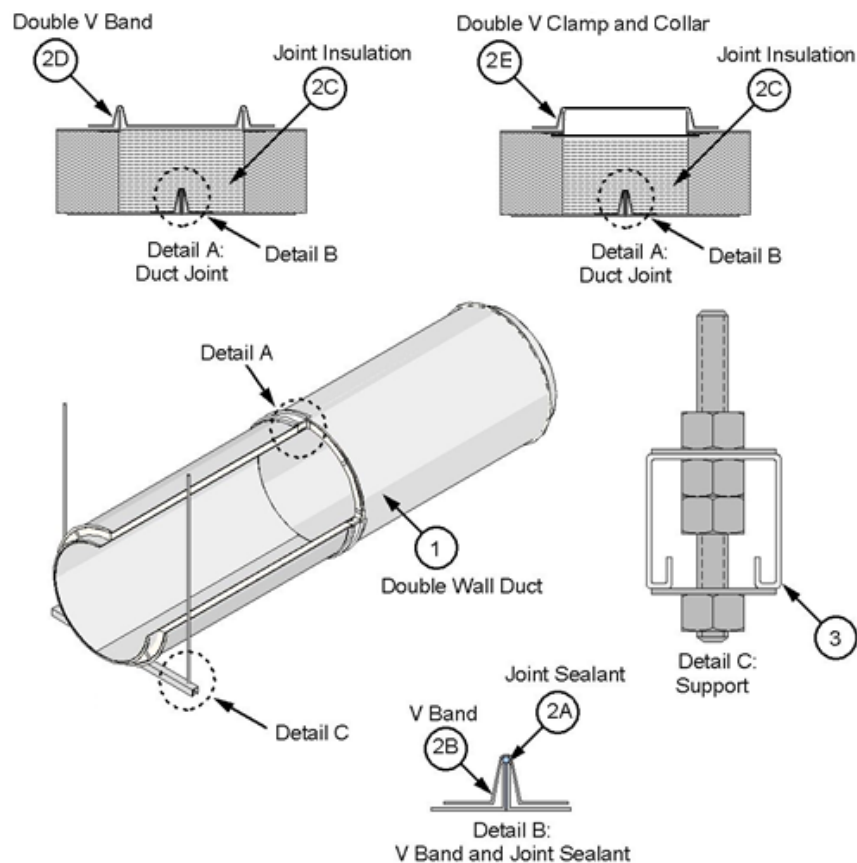

Figure 1. Double Wall Duct and Horizontal Support
- B. **V BAND** – Use the supplied V band (see Figure 1). Place the loose V band, filled with joint sealant (Item 2A), over one of the inner duct flanges. Join to the other inner duct flange with the continuous bead of joint sealant (Item 2A) and rotate slightly to ensure complete coverage of joint sealant (Item 2A) on flanges. Ensure that the flanges are located within the V band and that the V band hardware is not at the bottom side of a horizontal duct. Tap the V band while tightening the integral 1/4-20 hardware to ensure flanges are aligned
- D. **DOUBLE V BAND** – Use the supplied double V band (see Figure 1) for grease duct diameters ≤ 24 in. Place double V band with the grease duct outer shell flanges seated in the V band; tighten integral 1/4-20 hardware to 40-60 in.lbs.
- E. **DOUBLE V CLAMP AND COLLAR** – Use the supplied double V clamp and collar (see Figure 1) for grease duct diameters > 24 in. Use the sheet metal collar to retain the joint insulation; overlap collar ends and fasten together with min. two min. size #6 sheet metal screws. Place double V clamp with the grease duct outer shell flanges seated within the clamp recess; tighten integral 1/4-20 hardware to 40-60 in.lbs.
steel rods connected using Grade 5 hex nuts and 1/2 in. hardened washers (see Figure 1, Detail C). For grease duct diameters > 24 in., use supplied 12 GA steel saddles fastened to the Unistrut® channels with supplied 5/16-18 hardware. Connect the threaded steel rods to the bottom of the floor assembly using an attachment method designed to carry the weight of the pre-fabricated grease duct (Item 1) under a fire load equivalent to ASTM E 119 time-temperature curve for a 2 hour period. Place one threaded steel rod at each end of the supporting cross-member. Center the pre-fabricated grease duct (Item 1) on the cross-member. Space the threaded steel rods a max. of 8 in. from surface of the pre-fabricated grease duct (Item 1). Cut the cross-members such that each extends a min. 1-1/2 in. past the threaded steel rods. Space horizontal supports a max. of 84 in. on center (oc) for ducts with nominal diameter ≤ 16 in., and a max. of 60 in. oc for nominal 18 in. to 36 in. diameter ducts.